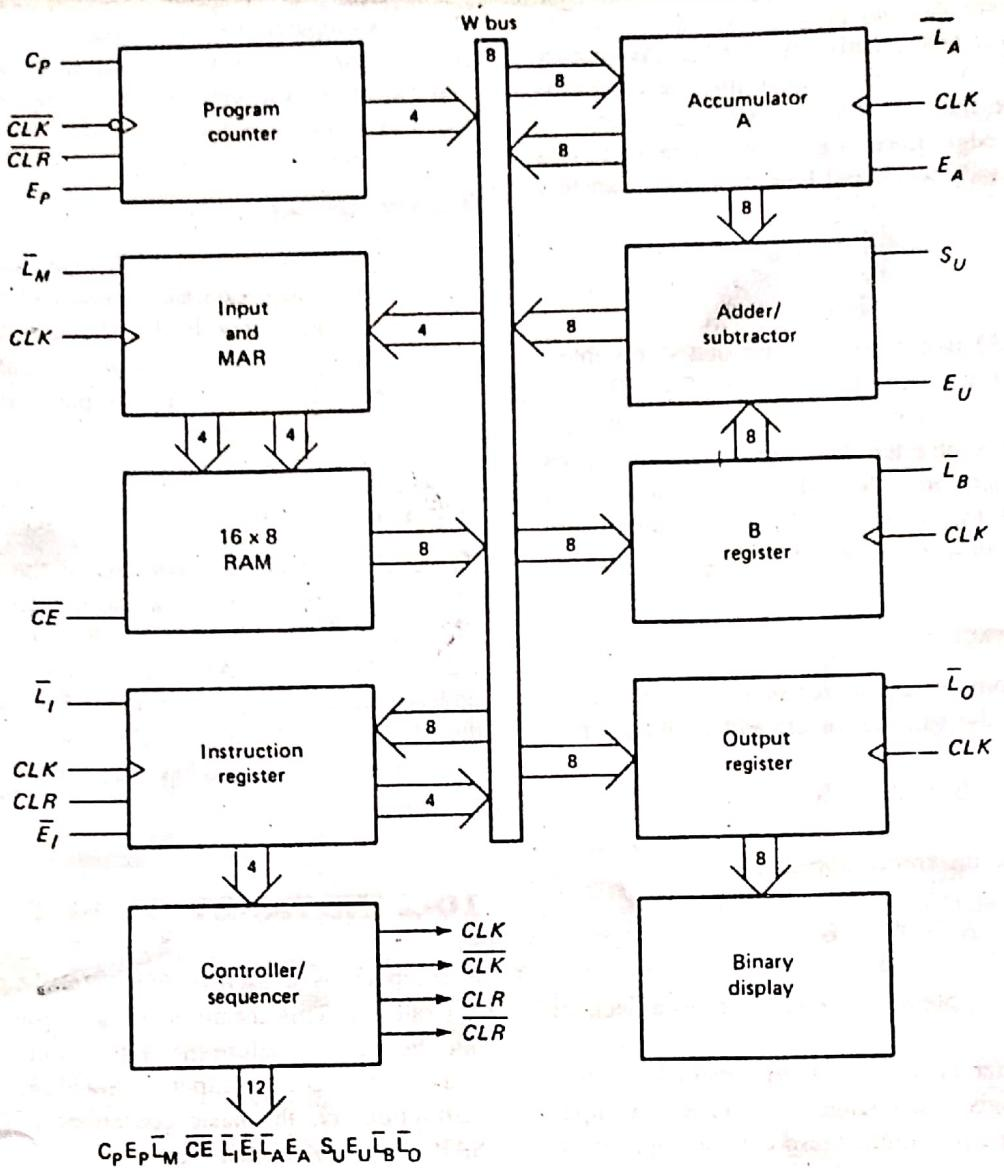

Fig. 10-1 SAP-1 architecture.
Figure 10-1 shows the *architecture* (structure) of SAP-1, a bus-organized computer. All register outputs to the W bus are three-state; this allows orderly transfer of data. All other register outputs are two-state; these outputs continuously drive the boxes they are connected to.
The layout of Fig. 10-1 emphasizes the registers used in SAP-1. For this reason, no attempt has been made to keep all control circuits in one block called the control unit, all input-output circuits in another block called the I/O unit, etc.
Many of the registers of Fig. 10-1 are already familiar from earlier examples and discussions. What follows is a brief description of each box; detailed explanations come later.
The **accumulator** (A) is a buffer register that stores intermediate answers during a computer run. In Fig. 10-1 the accumulator has two outputs. The two-state output goes directly to the adder-subtractor. The three-state output goes to the W bus. Therefore, the 8-bit accumulator word continuously drives the adder-subtractor; the same word appears on the W bus when E_A is high.
SAP-1 uses a 2's-complement *adder-subtractor*. When S_U is low in Fig. 10-1, the sum out of the adder-subtractor is